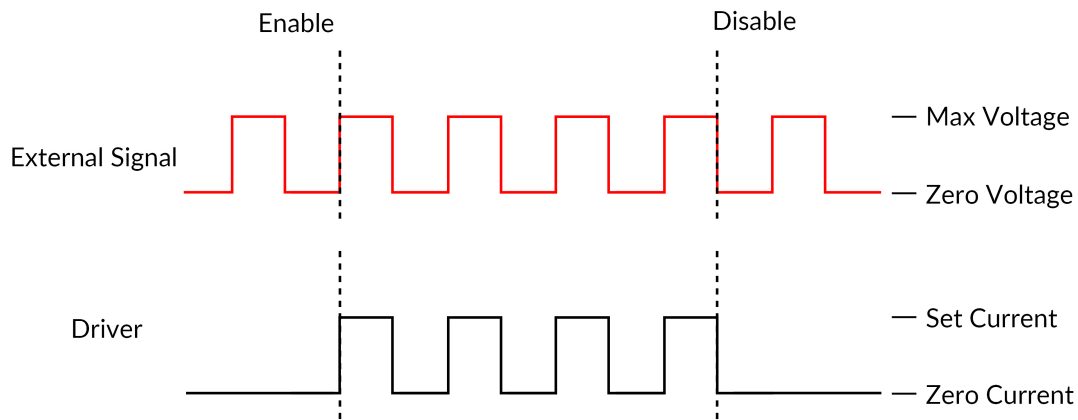

Figure 4.4: Driver Signal Response to External Source in External TTL Mode
- b) The **External TTL** mode (Fig. 4.4) has the light source follow a TTL signal provided by an external source connected to the **BNC Input**. When this mode is active, the driver channel will show **TTL** under **MODE**. This mode has no additional sequence options.